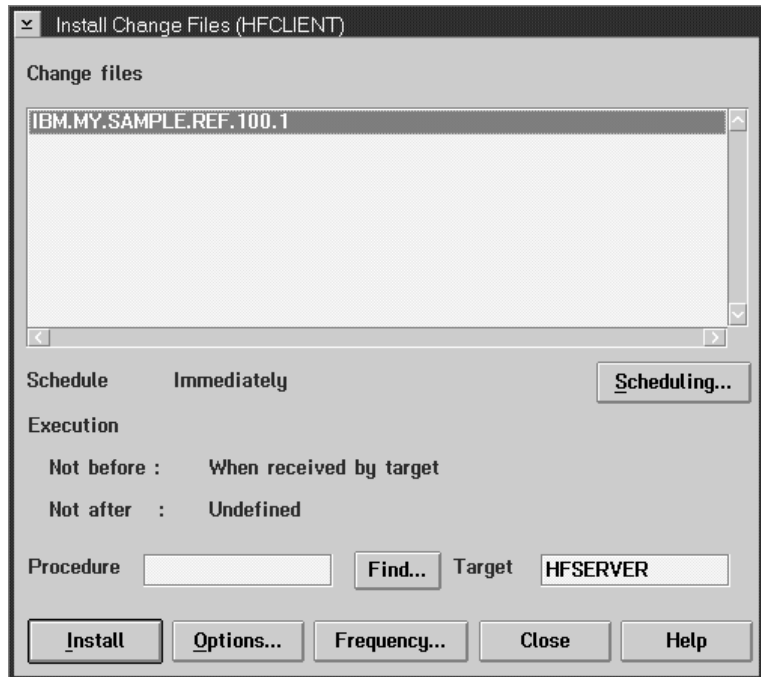

Figure 138. Install Change Files window
- 5 Select **Install** from the **Selected** pull-down. The Install Change Files window is displayed, as shown in Figure 138 on page 213.